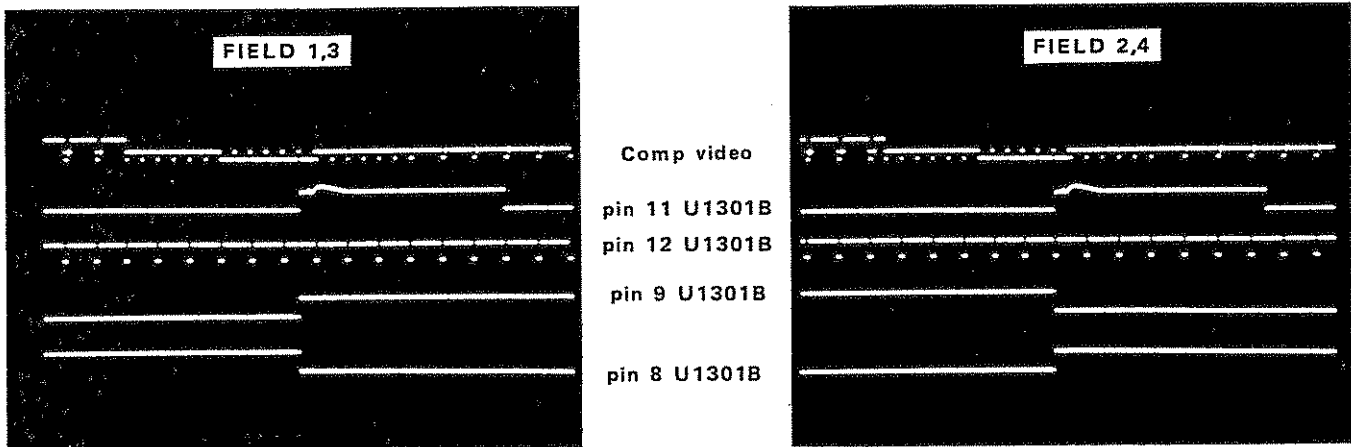

Fig. 3-2. Field Recognition timing waveforms.
U1301B has square-wave outputs that are used for selecting VITS fields. The clock input, pin 11, receives a six and one-half line wide, field-rate pulse from the divide-by-525 counter. The data (D) input, pin 12, gets an inverted $8 \mu\text{s}$ wide, line-rate pulse from the divide-by-64 counter. If the data input is high when the clock pulse goes high, pin 9 will go high. This condition occurs at the start of fields 1 & 3. At the start of fields 2 & 4, the data input is low when the clock pulse goes high, so pin 9 switches low. See Fig. 3-2 for timing diagrams.